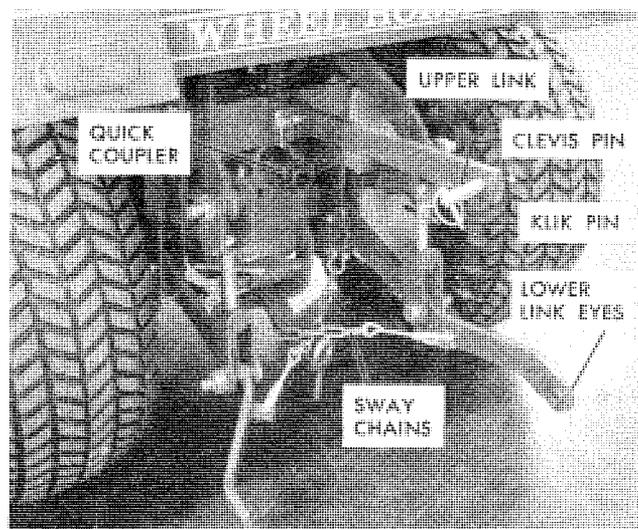

FIGURE 2
2. Install 3 Point Hitch sway chains as shown in Fig. 2 and do not tighten at this time.